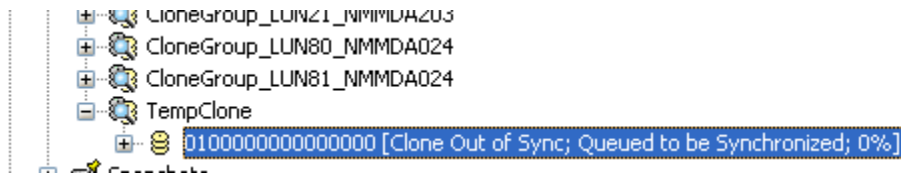

Figure 17 – Clone Synchronization
9. Once you complete the clone configuration, source and LUNs will start syncing. Sync time depends on the size of the LUN; see Figure 17.